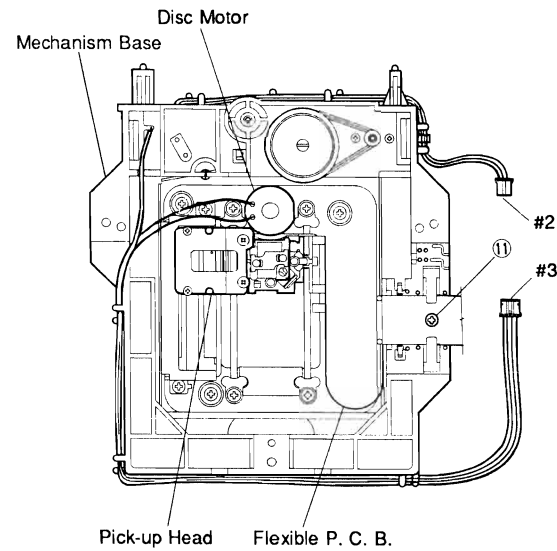

Fig. 4
- c. Remove a plastic rivet (⑪) and then remove the flexible P. C. B from the mechanical base in Fig. 4.
- d. Disconnect the connector (#3) of the disc motor from the mechanical base in Fig. 4.